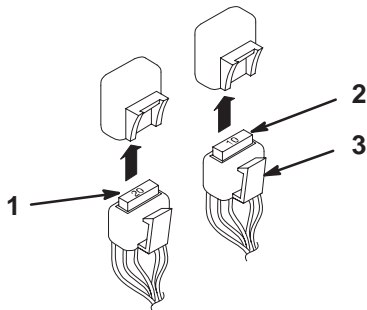

Figure 46
Fuse: Fuel Pump 10 amp, blade-type (Fig. 46)
Fuse: Engine Fuse 20 amp, blade-type (Fig. 46)
1. Locate fuses in the left rear of machine. Pull plastic clip out and down to gain access to fuses in holders (Fig. 46).
2. To replace fuses pull out on the fuse to remove it (Fig. 46).